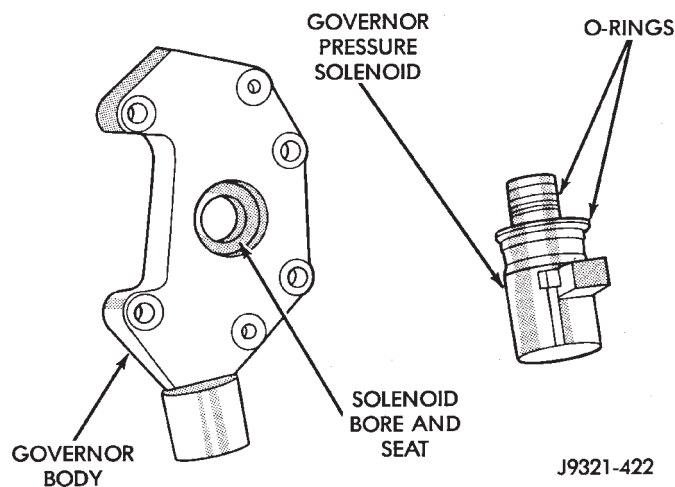

Fig. 94 Governor Pressure Solenoid Removal
(6) Remove governor pressure solenoid by pulling it straight out of bore in governor body (Fig. 94). Remove and discard solenoid O-rings if worn, cut, or torn.